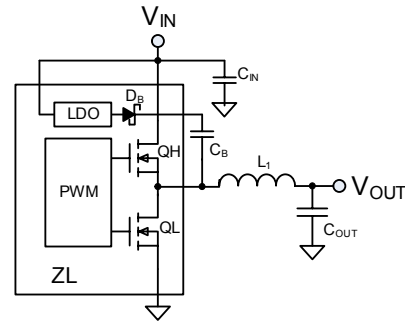

FIGURE 10. SYNCHRONOUS BUCK CONVERTER
Figure 10 illustrates the basic synchronous buck converter topology showing the primary power train components. This converter is also called a step-down converter, as the output voltage must always be lower than the input voltage.
The gate drive voltage for the high-side MOSFET driver is generated by a floating bootstrap capacitor, C_B (see Figure 10). When the lower MOSFET (QL) is turned on, the SW node is pulled to ground and the capacitor is charged from the internal VR bias regulator through diode D_B . When QL turns off and the upper MOSFET (QH) turns on, the SW node is pulled up to VDDP and the voltage on the bootstrap capacitor is boosted approximately 6.5V above VDDP to provide the necessary voltage to power the high-side driver. An internal Schottky diode is used with C_B to help maximize the high-side drive supply voltage.